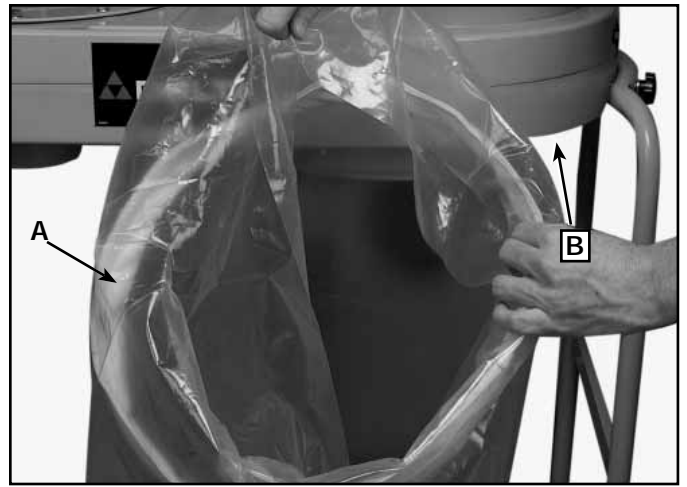
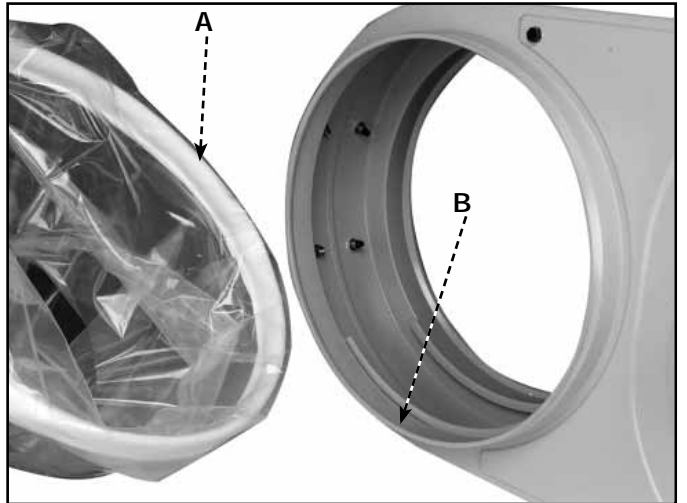

Fig. 8
Fig. 9
1. Take cloth-covered bag retainer ring (A) Fig. 8 and place it inside opening of clear plastic dust collection bag. Fold about 6 inches of the bag down around the retainer ring.
2. Place bag up into the motor/blower assembly (B) Fig. 8 and fit retainer ring (A) Fig. 8 and (A) Fig. 9 into bottom groove (B) Fig. 9. It will be necessary to bend and fold the ring to fit it into place.
5. Work open end of filter bag into top groove of dust collector drum until secure and sealed. (Similar to how internal ring of bottom bag was inserted, Fig. 9. It will be necessary to bend and fold the internal bag retainer ring to fit it into place.